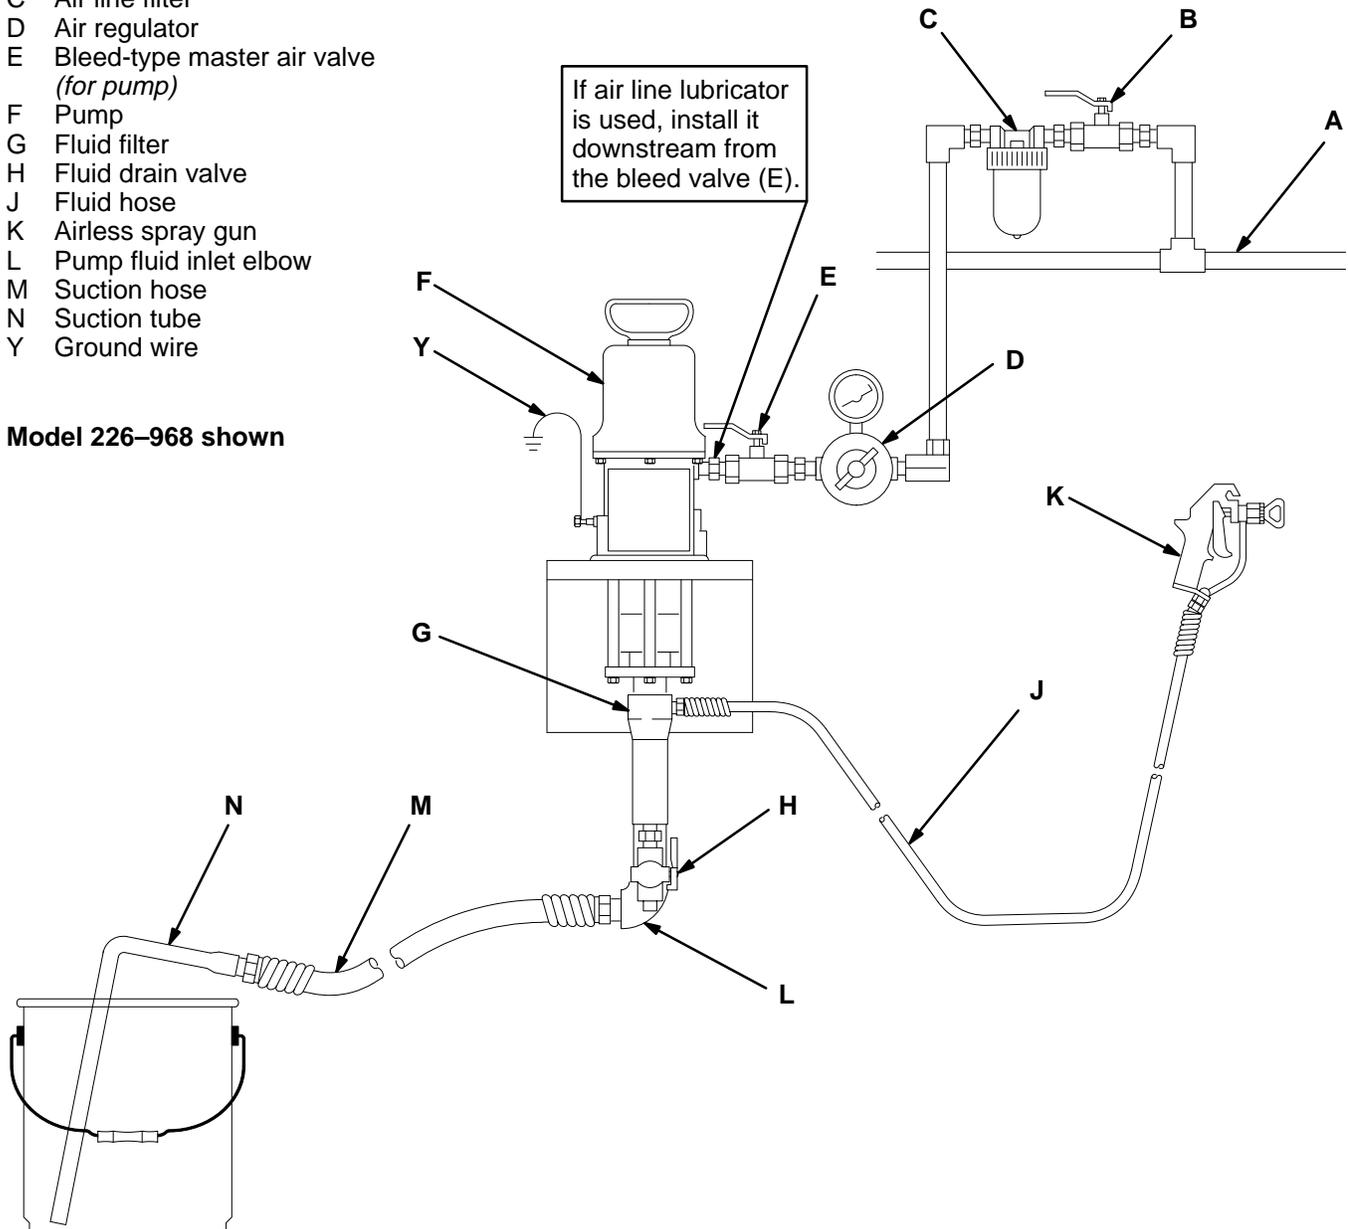

Fig. 2
The Typical Installation shown in Fig. 2 is only a guide for selecting and installing system components and accessories. Contact your Graco distributor for assistance in designing a system to suit your particular needs.
Install the following accessories in the order shown in Fig. 2, using adapters as necessary:
Install the following accessories in the positions shown in Fig. 2, using adapters as necessary:
- **Spray gun (K)**
Install on the end of the fluid hose (J) to dispense the fluid. The gun shown in Fig. 2 is an airless spray gun.
1. Ensure that the air regulator (D) and bleed-type master air valve (E) are closed. See Fig. 2 on page 6.
2. Connect a suction hose (M) to the pump's fluid inlet, or lower the pump into a fluid supply container.
3. Hold a metal part of the spray gun (K) firmly to the side of a grounded metal pail and hold the trigger open.
4. Open the pump's bleed-type master air valve (B).
5. Slowly open the air regulator (D) until the pump starts (at approximately 40 psi [2.8 bar]).